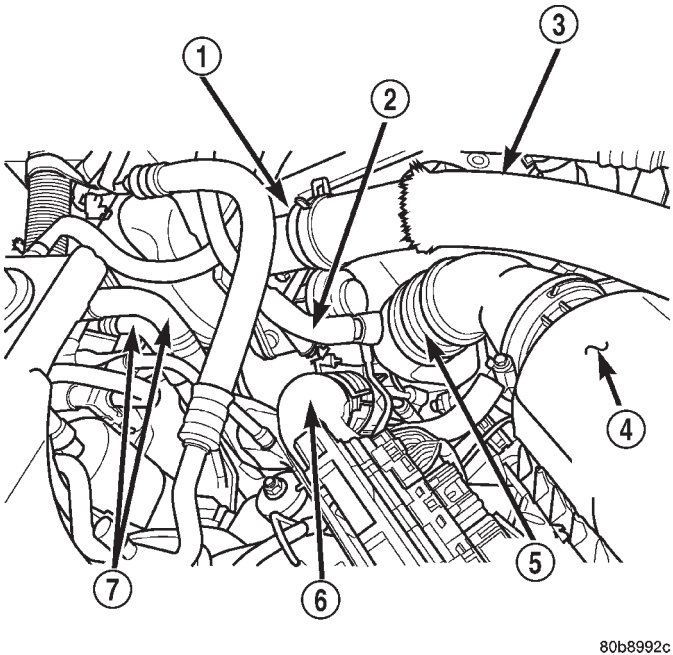

Fig. 1 LHD Engine Compartment — Diesel
- (1) Disconnect the negative battery cable.
- (2) Remove the innercooler inlet hose from turbo-charger and position it out of the way (Fig. 1).